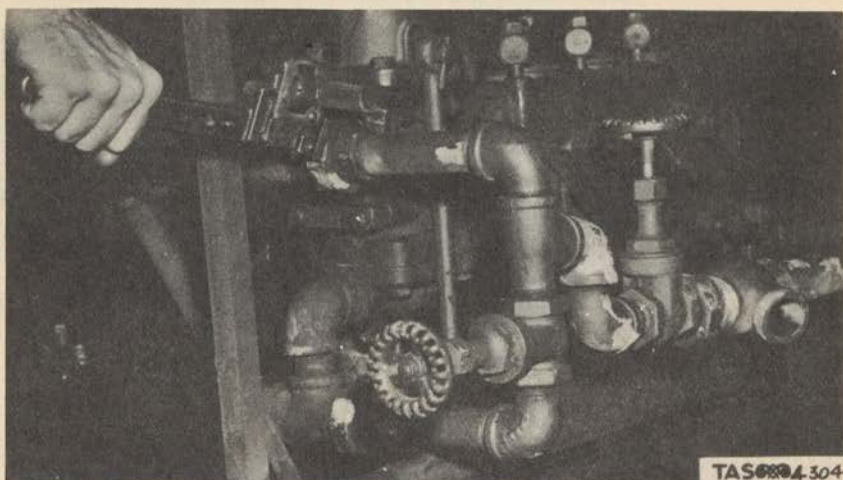

Figure 268. Disconnection of Unions.
(1) Disconnect the three unions shown in figure 268. (It is possible to disassemble the pressure regulator and unloading valve without disconnecting these unions, but this step provides greater accessibility.)